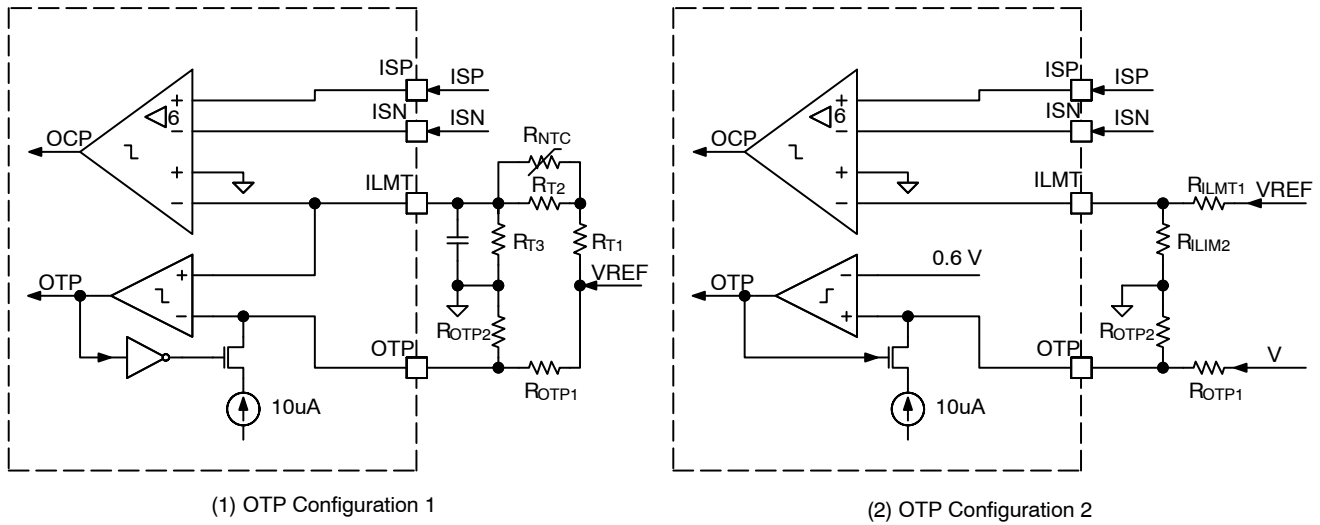

Figure 18. Over-Current Protection and Over-Temperature Protection
The over-current threshold can be externally programmed at the ILIM pin. As shown in Figure 18 (1), a NTC resistor R_{NTC} can be employed for temperature compensated over current protection. The peak current limit per phase can be calculated by
With OTP Configuration 1, as shown in Figure 18 (1), the NTC resistor R_{NTC} senses the hot-spot temperature and changes the voltage at ILMT pin. Both over-temperature
If no temperature compensation is needed, as shown in Figure 18 (2), the peak current limit per phase can be simply set by
With OTP Configuration 2, as shown in Figure 18 (2), the NCP81233 receives an external signal VT linearly representing temperature and compares to an internal 0.6 V reference voltage. If the voltage is over the threshold OTP happens. The OTP assertion threshold VOTP and reset threshold VOTP_RST in this configuration can be obtained by